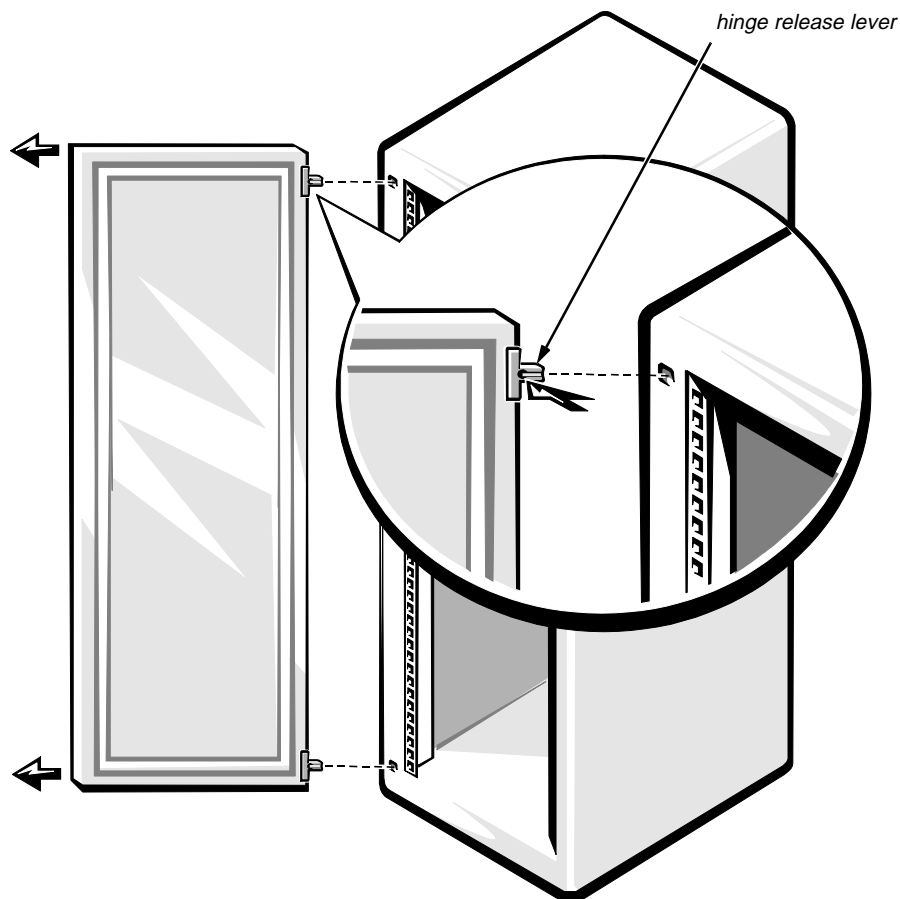

Figure 2-4. Removing the Front Door
2. **Remove the front door as shown in Figure 2-4.**
- c. The person holding the top of the door should press the release lever on the top hinge (see Figure 2-4) and then pull the door away from the rack.